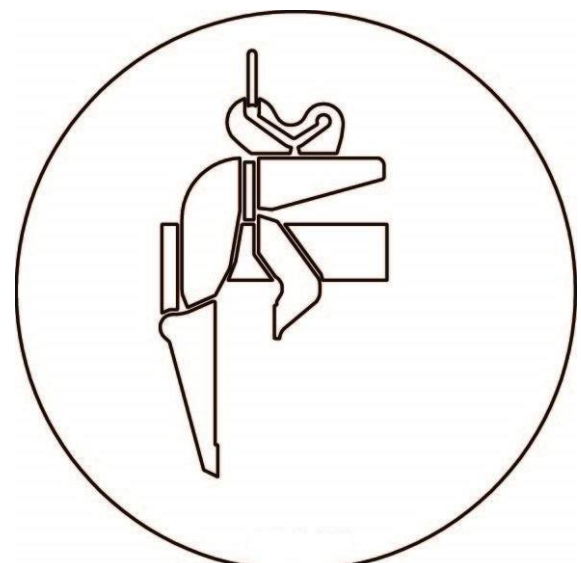

Fig. B1 (empty strike position)
- Take care when lifting the device (WEZ) without gripping good) the automatic release (4) locks into position and therefore the device (WEZ) remains open.
**IMPORTANT:** the lifting eye (1) must be in the **rear** position of the suspension bracket (2). → Fig. B/ Fig. B1